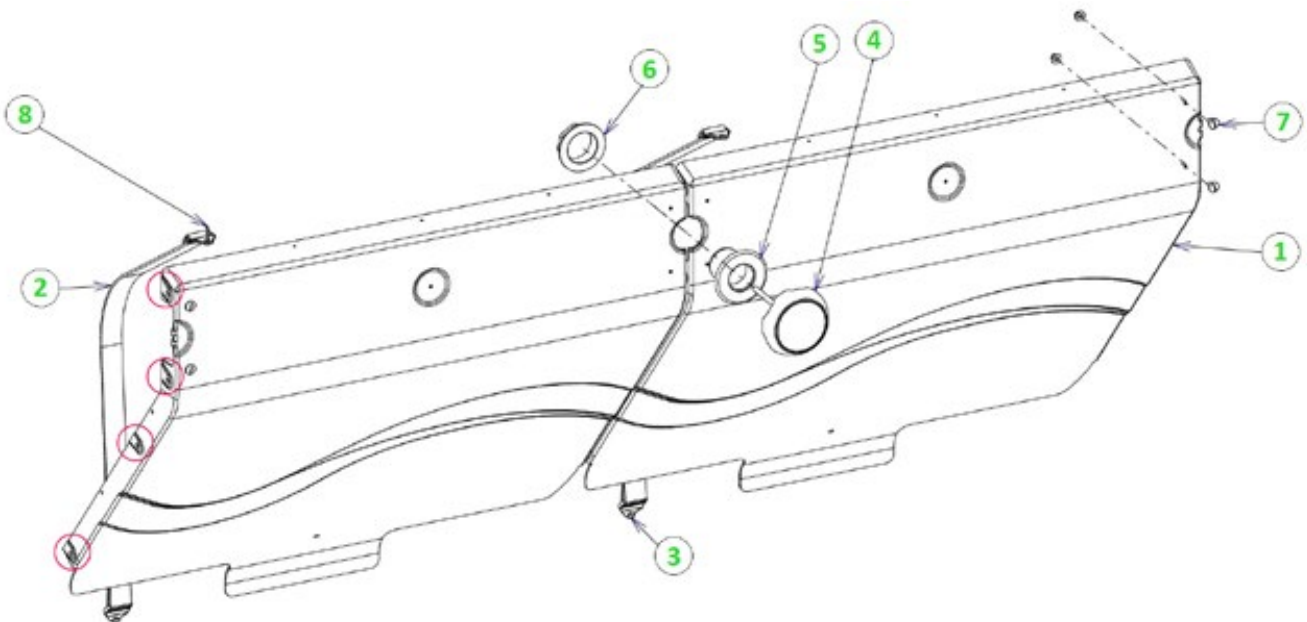

Figure 43 – Installing the pit wall and underwater light
The pit wall and underwater light assembly steps are illustrated in *Figure 43*. The screws required for assembly are enclosed in bag Y.
Assemble the two pit wall modules (1) using four hex head 8 × 20 A4 SS screws, and four 8 mm diameter nuts, insert a 8 mm diameter washer on either side of the wall, that is a total of 8 washers. The positions of the screws are circled in red in *Figure 43*
Lastly, fasten the pit wall to the brackets (part 12 in *Figure 43*) using four 8 × 16 stove screws (7), four washers and four 8 mm diameter A4 SS nuts.